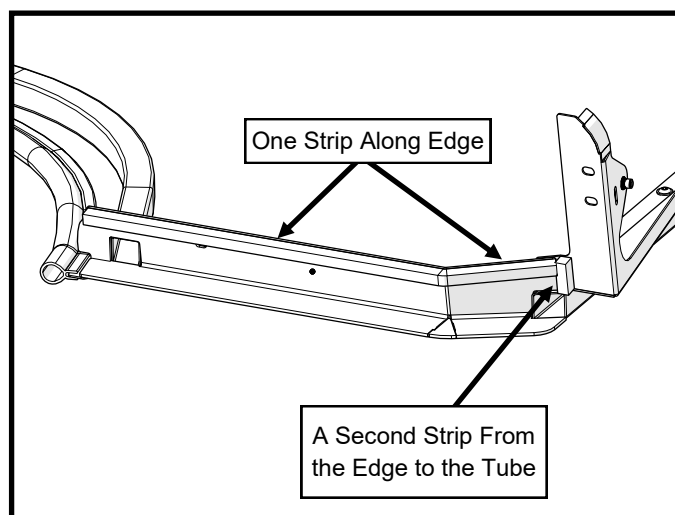

Figure 27: Install Foam Gasket
27. Locate the left side frame and install the supplied foam gasket along the bottom of the floorboard as shown in figure 27. Repeat on the right side frame.